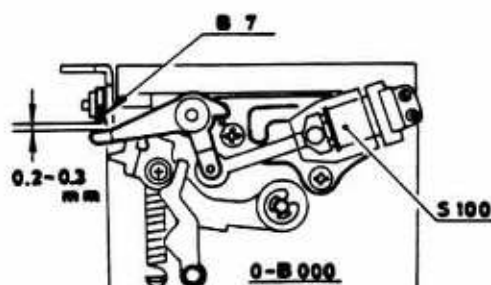

Fig. 32
- \* Install Release magnet (S100) so that the clearance between Hook lever (B7) and the lever of Release magnet becomes 0.2 ~ 0.3mm as shown in Fig. 32.